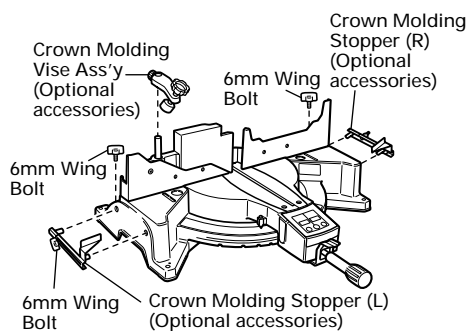

Fig. 34-a
- (1) Crown molding Stopper (L) and (R) (optional accessories) allow easier cuts of crown molding without tilting the saw blade. Install them in the base both-sides side to be shown in Fig. 34-a. After inserting Tighten the 6mm knob bolts to secure the crown molding Stoppers.